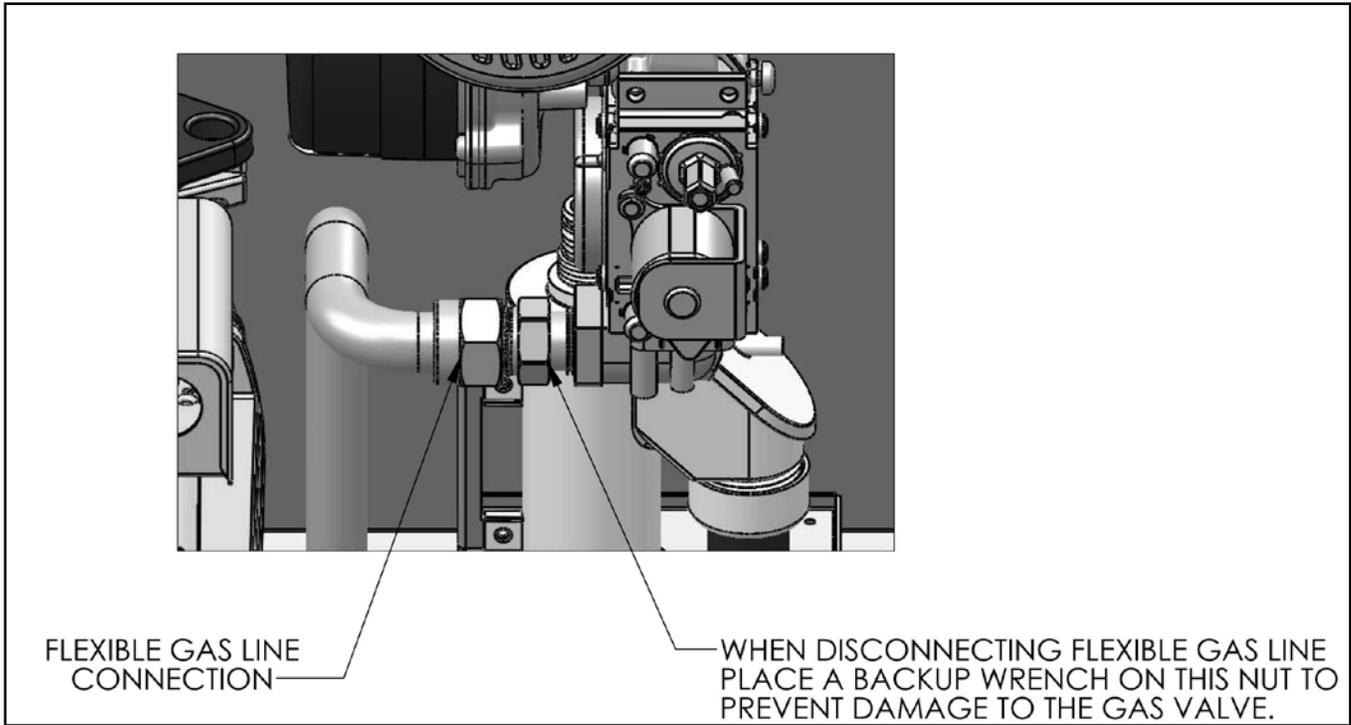

Figure 1.1: Disconnecting Flexible Gas Line
- e. **Disconnect the flexible gas line** at the gas valve flare connection (Figure 1.1).
Fire Hazard. Explosion Hazard. Always use a back-up wrench on the flare connection when making or breaking this connection as shown in Figure 1.1. Failure to do so can cause adjacent threaded connections to loosen or damage to the gas valve. Check all internal gas piping for leaks any time it is disconnected or disturbed during servicing.